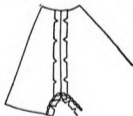

FIGURE 157
*Making the Raglan Sleeve* (Figure 157). — The raglan sleeve is cut separately from the waist. The seam of the sleeve and underarm seam of the waist are continuous and the sleeves are set in before the underarm seams are stitched. Match the notches of the sleeve and waist and pin and baste in place. Stitch the seam  $\frac{1}{2}$  inch from the raw edge.